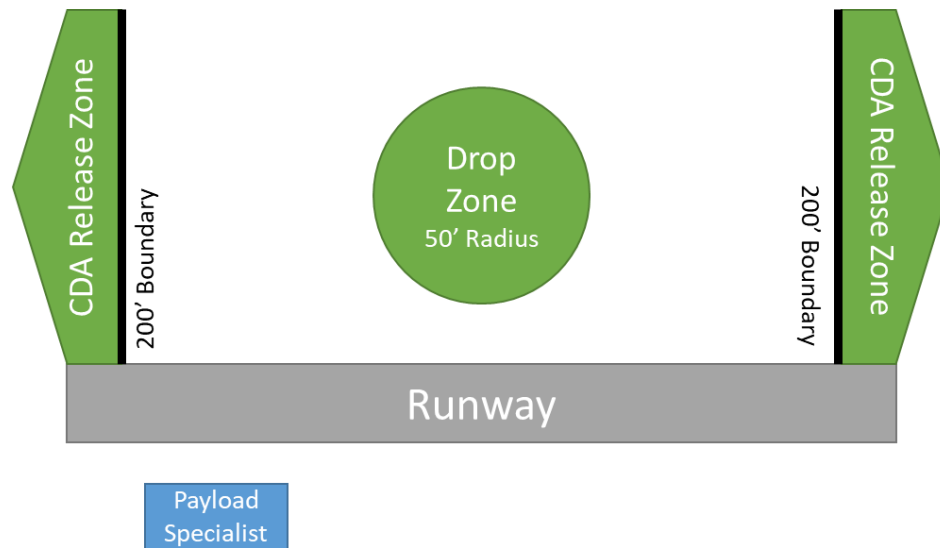

Figure 8.1 – CDA Release Zone
3. Teams may release the CDA(s) at any point in their flight pattern, as long as they adhere to 8.15.1 and 8.15.2. See Figure 8.1.